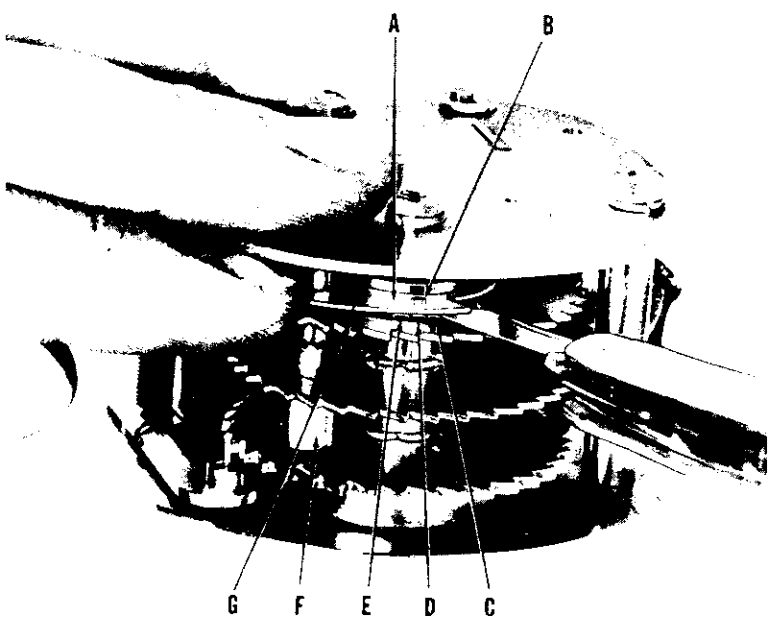

FIG. 1 - VIEW OF ACCUMULATOR
- A. Insert thin blade of pocket knife under quarter wafer (A-Fig. 1), twist slightly, raising wafer pin (B-Fig. 1) from hole.
- B. Keep quarter ratchet wheel from rotating and move quarter wafer until pin drops into three play hole (E-Fig. 1) closest to ratchet spring stud (F-Fig. 1).
- B. Keep quarter ratchet wheel from rotating and move quarter wafer until pin drops into six play hole (C-Fig. 1) farthest from ratchet spring stud (F-Fig. 1).